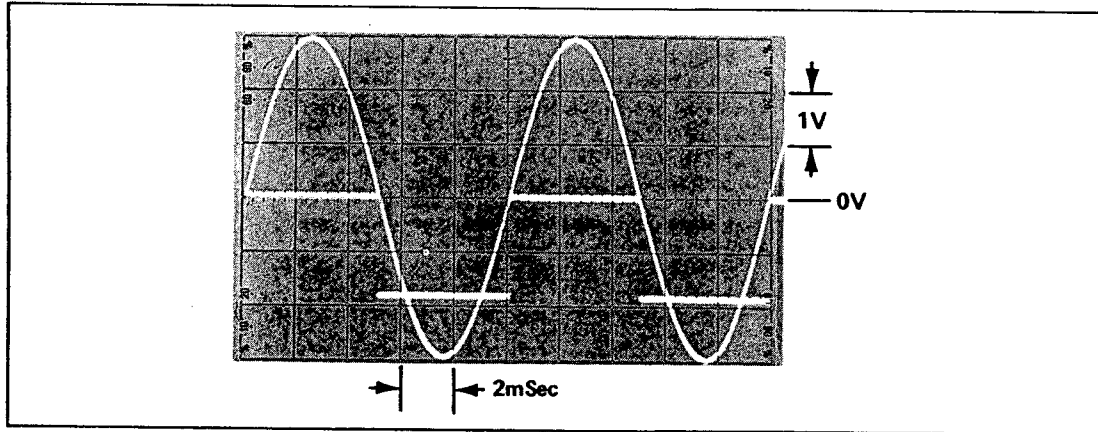

Figure 4-23. Triggering Level Test Waveforms — I
- e. Adjust the Oscilloscope's Channel "B" controls so the top of the Model 5328B's Channel "A" MARKER OUTPUT waveform just barely intersects the positive-slewing and negative-slewing portions of the 100 Hz sine wave as shown in Figure 4-23. Verify that this occurs at zero volts on the 100-Hz sine wave.
- g. Adjust the Oscilloscope's Channel "B" controls so the top of the Model 5328B's Channel "B" MARKER OUTPUT waveform just barely intersects the positive-slewing and negative-slewing portions of the 100 Hz sine wave as shown in Figure 4-23. Verify that this occurs at zero volts on the 100-Hz sine wave.